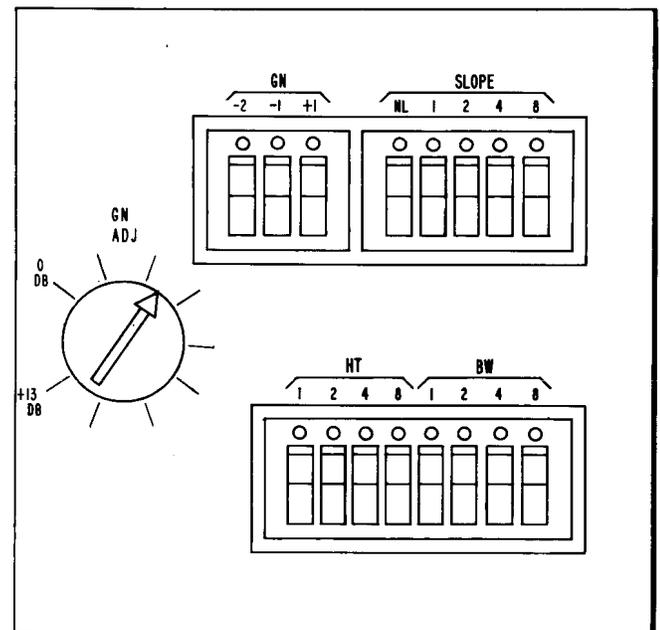

Fig. 2—309B Repeater Unit
1.13 The 309B repeater unit (Fig. 2) is the 309A with an active equalizer included. The gain switches are identical to the 309A. Active equalization over the voice frequency range is available by selection of combinations of switches labeled SLOPE, HT, and BW. Adjustment of the flat gain is identical to the 309A as described in 1.11.